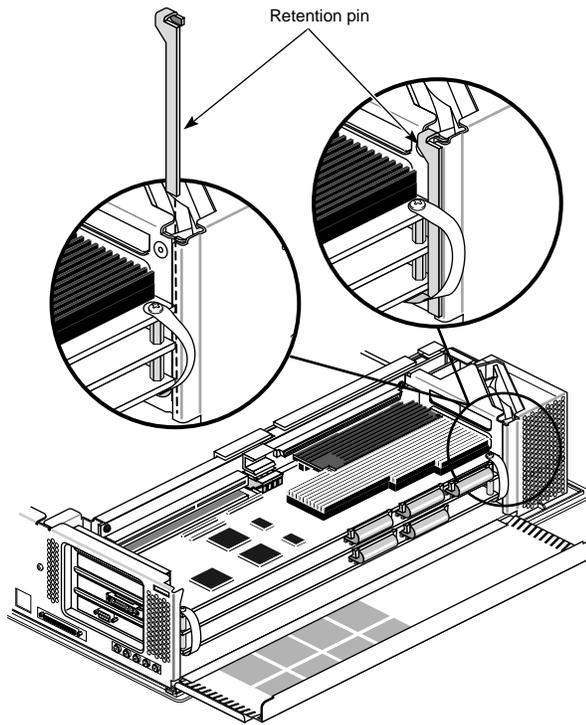

Figure 2-8 Removing the Retention Pin
3. Remove the retention pin that secures the graphics board set as shown in Figure 2-8.